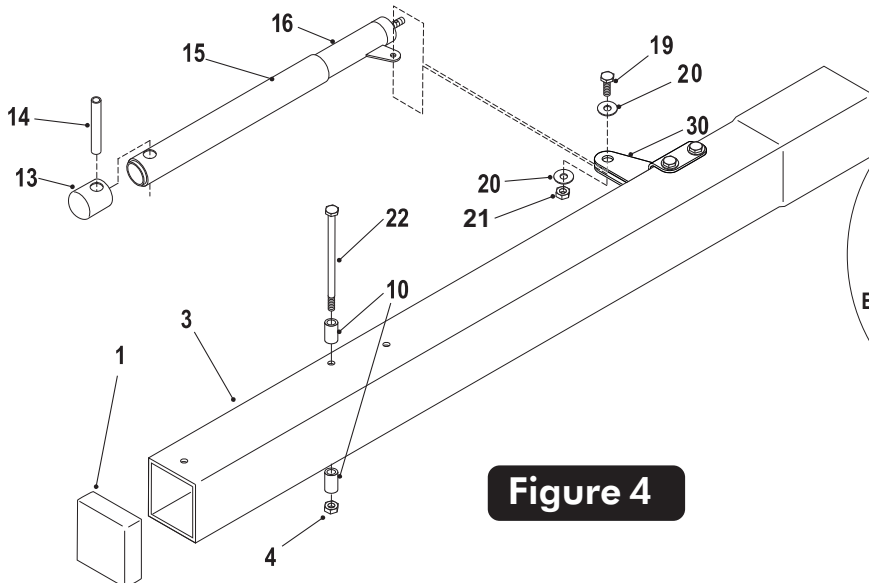

Figure 4
4. Slide Actuator Sleeve (#15) over Actuator (#16) and place Actuator Cap (#13) on top. Align holes in all 3 parts and slide Pivot Tube (#14) through holes in Actuator Cap (#13) Plastic Actuator Sleeve (#15) and Steel Actuator (#16) until equal amounts stick out through both sides of actuator. See **Figure 4**.
5. Lay Pole Assembly on its side on two padded saw horses. Slide tab on Actuator (#16) between Post Ears (#30) and secure using one bolt (#19), two washers (#20) and one lock nut (#4). See **Figure 4**. Tighten bolts tight.
7. Secure two stop spacers (#10) to pole, as shown in **Figure 4**, using one hex bolt (#22) and one lock nut (#4).